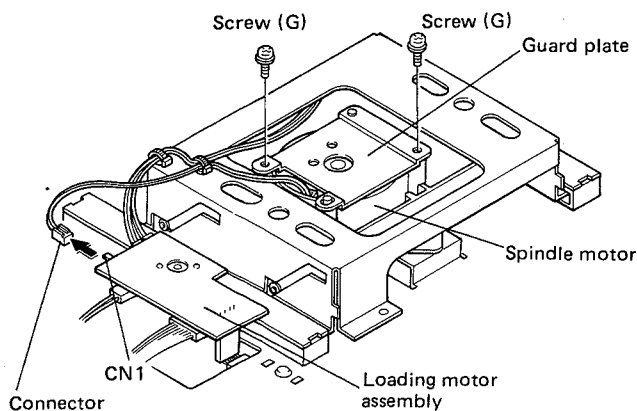

Fig. 22
6. Disconnect CN1 on the loading motor assembly. (Fig. 22)
7. Remove the screws (G), then detach the guard plate and the spindle motor. (Fig. 22)